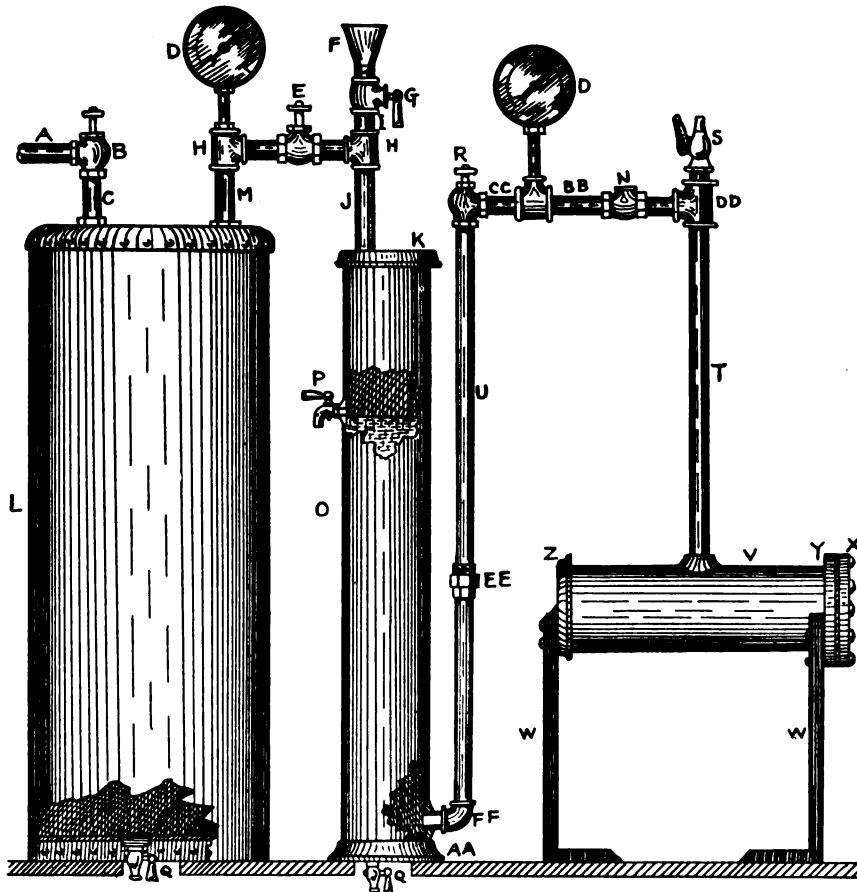
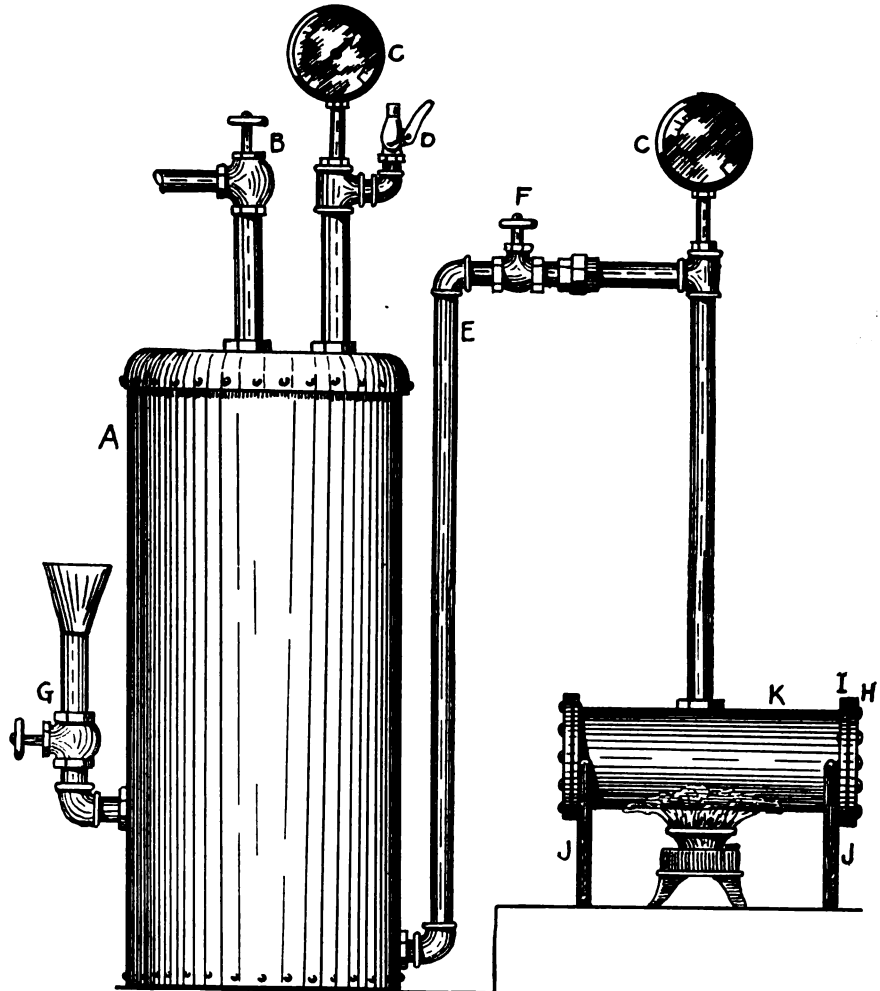

FIG. 3—SHOWING MR. WAYCHOFF'S IMPROVED OXYGEN GENERATOR
FIG. 4—A SIMPLE OXYGEN GENERATOR WITHOUT THE SCRUBBER TANK
The list of materials necessary for making the oxygen generator is as follows. See Fig. 3.
To make the generator (Fig. 3) take the boiler or tank (L) and plug up the side hole, then put in the two top pipes, as shown in the illustration, also the drain cock (Q) in the bottom.
shape to fit the lower half of the retort. This makes it much easier to clean out the retort, as the tray can be drawn out and cleaned on the outside and filled before replacing in the retort. The illustration at Fig. 4 is of another oxygen generator which is simpler to make, and if a large tank be used it is equally as good as the one in Fig. 3. The purpose of the scrubber is to make purer gas. The water absorbs the chlorine and other impurities from the oxygen while passing through it. The generator, Fig. 4, is briefly explained, as it is made the same way as Fig. 3, only the scrubber is omitted. A tank 24 inches in diameter should be used, and being kept half full of water makes a scrubber of it.